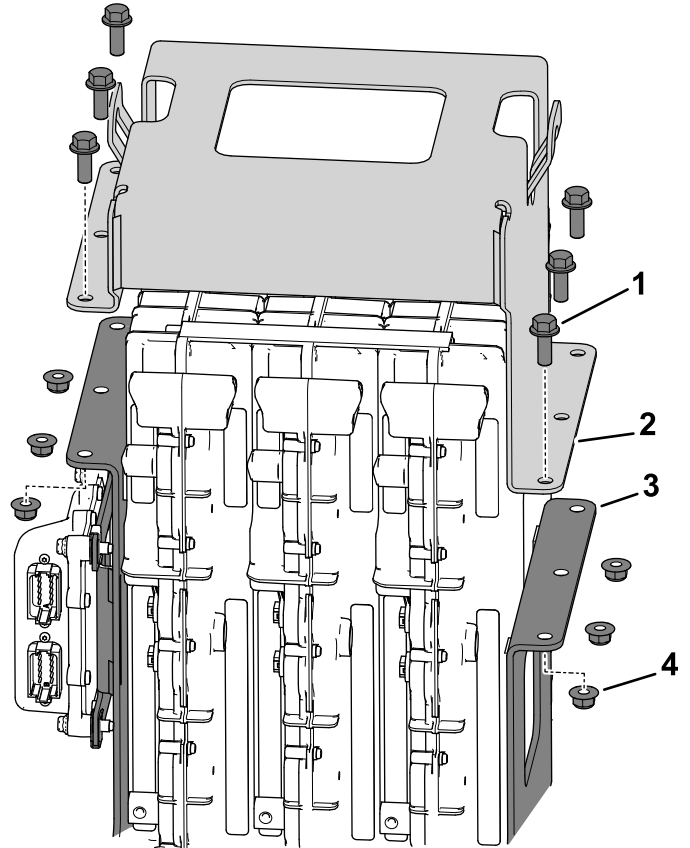

Figure 14
3. Use 6 flange bolts (3/8 x 1 inch) and 6 flange nuts (3/8 inch) to secure the top strap to the upper mount plate (Figure 14).